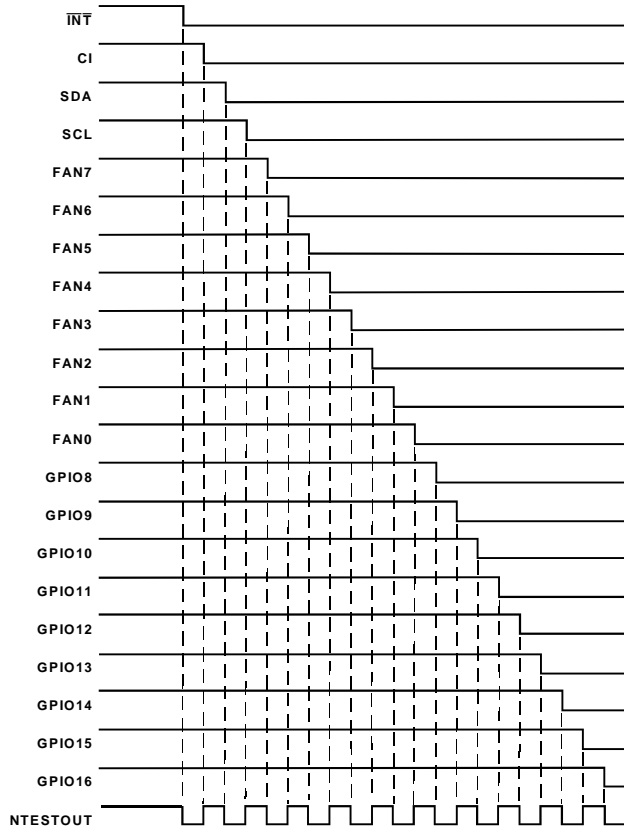

Figure 24. NAND Tree Test taking Inputs Low In Turn
1. Start with all inputs high and take them low in turn, starting with the input furthest from NTEST_OUT (INT) and working down the tree to the input nearest to NTEST_OUT (GPIO16/ $\overline{\text{THERM}}$). This should give a similar output pattern to Figure 24.